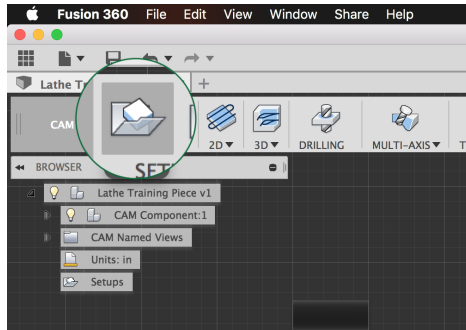

FIGURE 1.10: CREATING A NEW SETUP.
- On the Ribbon, click **New Setup** (it looks like a folder being opened), shown in Figure 1.10.